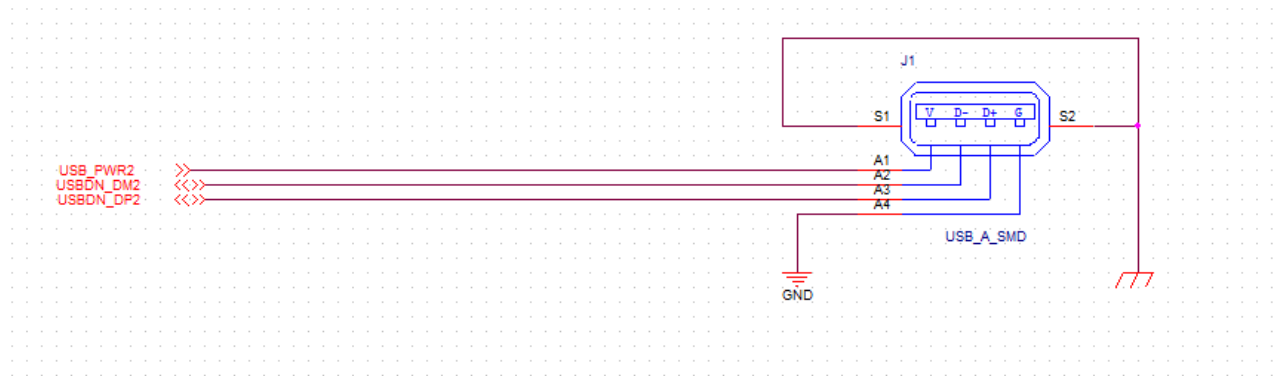

Figure 5: USB Host example
- The USB HOST channels on J9 (USBDN_DP2, USBDN_DM2, USBDN_DP3, USBDN_DM3) has already the power protections and management on the the NOVA**som** P board , and can be driven using a schematic like the one in the following Figure 5 (USBDN_DP2, USBDN_DM2 is shown, but the same can be used for USBDN_DP3, USBDN_DM3 with the USB_PWR3 signal).